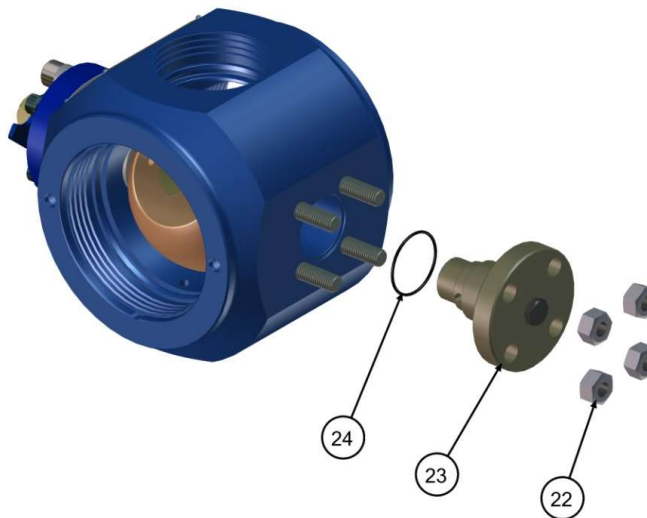

FIGURE 7
- 1) Remove the trunnion mounting nuts (22) (**FIGURE 7**).
- 2) Remove the trunnion (23) from the body.
- 3) Remove the o-ring (24) from the trunnion.